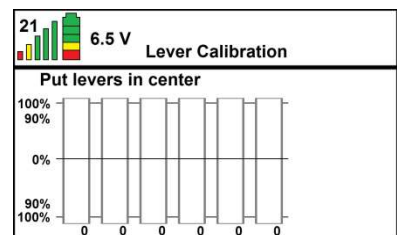

Figure: 19
- Press the ✓ button and you will be taken to the next screen. It says Put levers in center. Leave all the levers in their middle position; do not operate them (see figure 19).